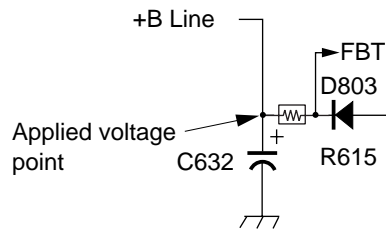

Fig.4-1
- 2) Input the undermentioned voltage to between C632 + side and GND, then check the protector function to works. (Fig.4-1)